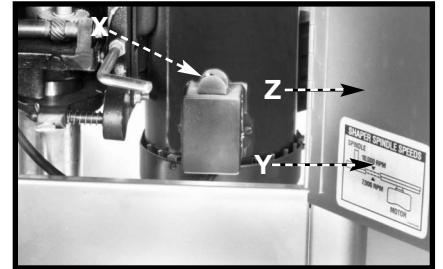

Fig. 22
A chart (Y) Fig. 22 that illustrates the correct belt placement for 7,000 or 10,000 RPM is located on the inside panel of the motor access door.
1. Open motor access door (Z) Fig. 22.
The motor is equipped with a reversing switch (X) Fig. 22, located on the motor junction box.